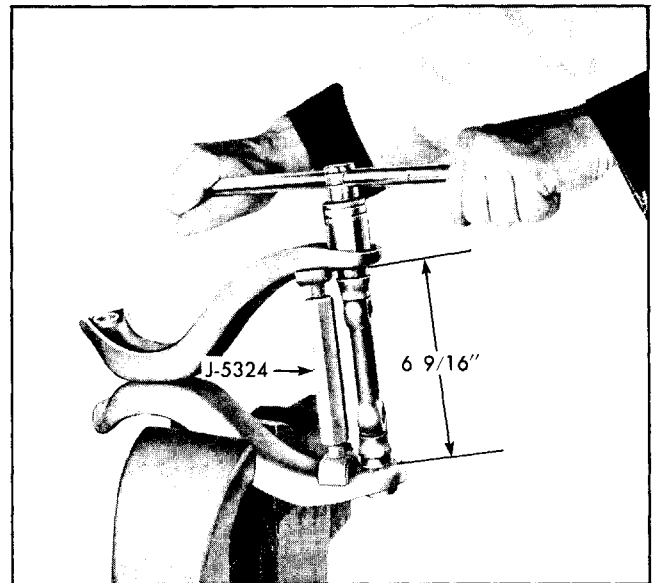

Fig. 3-19 Upper Control Arm Spreader J-5324
a. Place tool J-5324 in position and expand until distance between inner faces of arms is $6\frac{9}{16}$ " (Fig. 3-19).